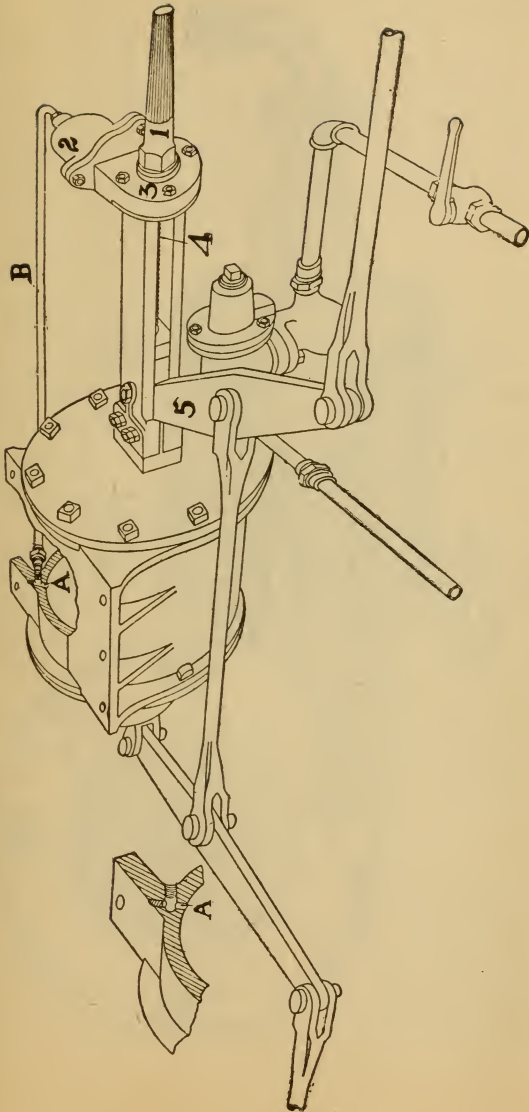
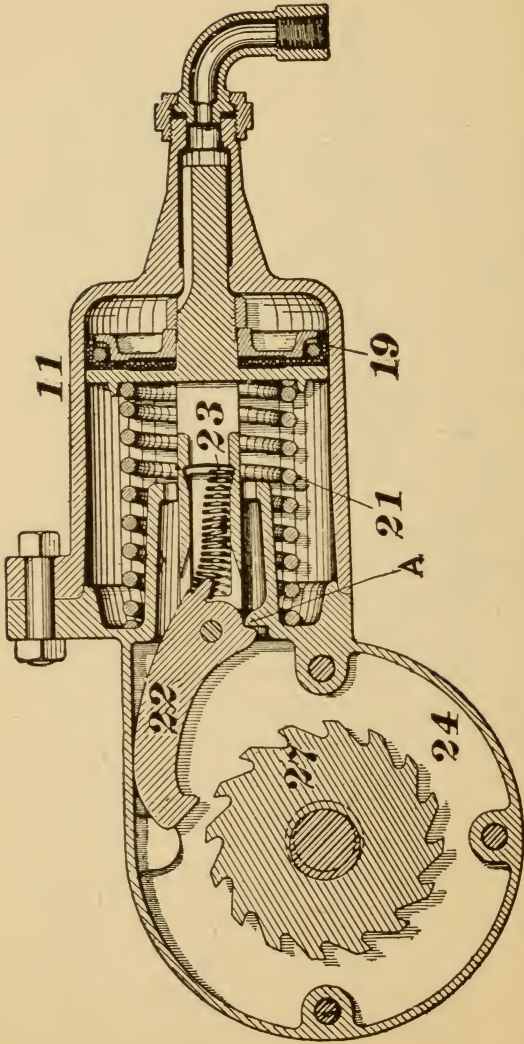

Fig. 40.
Fig. 41.
A. A fair knowledge of the device may be had by studying Figs. 40 and 41. The brake cylinder piston controls the admission and release of air to the slack adjuster. A hole is drilled into the cylinder at the point A as shown by Fig. 40 and is so located that the brake cylinder piston uncovers it when the desired piston travel is exceeded, admitting cylinder pressure into pipe B and thence to the slack adjuster cylinder 2 where the small piston 19 in Fig. 41 is forced outward compressing spring 21. Attached to piston stem 23 is a pawl extending into casing 24 which engages ratchet
A. Yes. When the pawl 22 is pulled back it strikes the point A disengaging it from the ratchet wheel. A wrench may therefore be used at 1, Fig. 40, to adjust the screw 4.